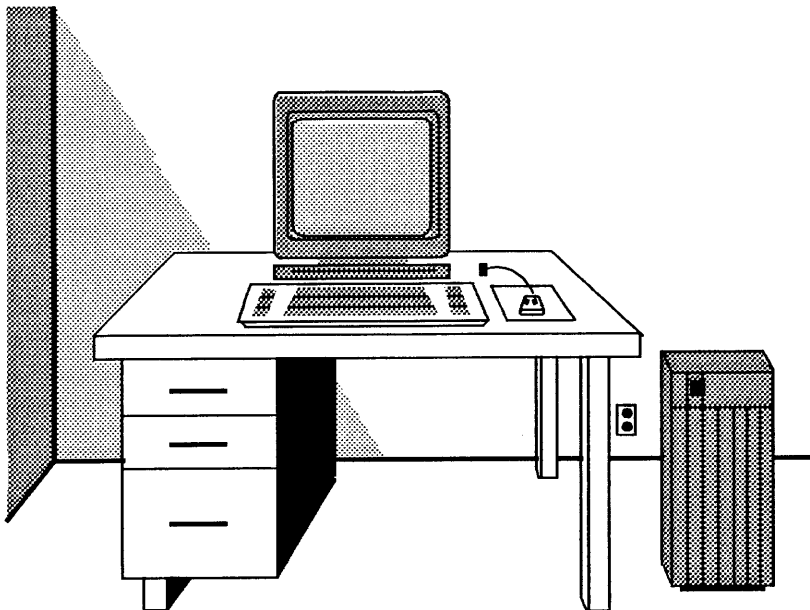

Figure 13. Positioning the System Components
1. Place the processor next to the table designated for the workstation and within eight feet of a wall outlet (Figure 13).